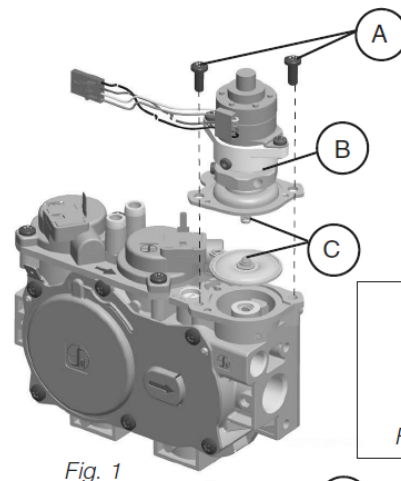

Fig. 1
To activate this function, press the Thermostat Key (Fig. 1) until the word "SMART" appears to the right of the temperature bulb graphic (
The secondary burner is controlled by the split Flow. To activate this function use the Mode Key (fig. 1) to index to the SPLIT FLOW mode icon
The auxiliary function controls the AUX relay outlet. To activate this function use the Mode Key (fig. 1) to index to the AUX icon
- Pressure regulator assembly (E)
- Two (2) screws (F)
- Identification label (G)
- 2 See Fig. 1. Using a Torx T20, or slotted screwdriver, remove and discard the two (2) pressure regulator mounting screws (A), pressure regulator tower (B), and the spring and diaphragm assembly (C), (If applicable).